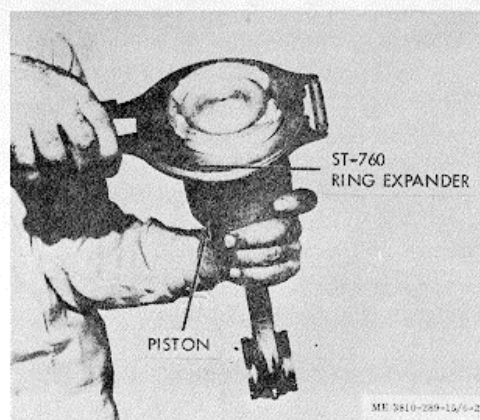

Figure 3-211. Piston rings installation.
(5) Secure piston pin at each end with snap rings; snap rings must be seated in grooves of piston.
(6) Check side clearance of rod (piston pin end) to piston boss with feeler gage; clearance must be 0.040/0.050 in.
(7) Before installing rings on pistons, lubricate rings and pistons with clean lubricating oil.
(8) Install piston rings, using ST-760 Ring Expander, figure 3-211.
(9) All rings must be installed with the word "Top" toward top of piston. Compression rings are placed in upper grooves, usually the top ring is chrome plated; oil rings (which may be multiple piece assemblies) are placed in lower groove.
(10) Stagger ring gaps so they are not in line with each other or with piston pin holes in pistons.